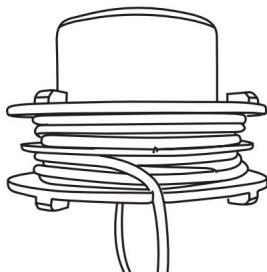

Fig. 67
4. Leave about 200mm long at last, and stick the lines into the slots to keep them in place. (Fig.67)